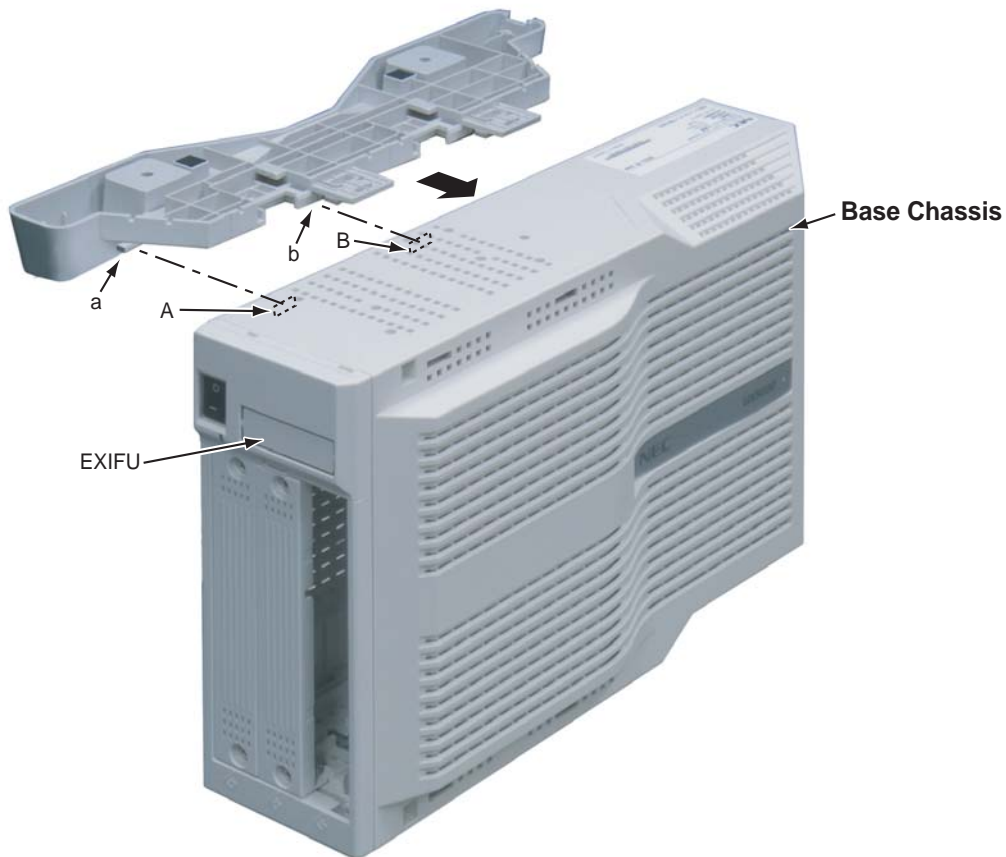

Figure 1-66: POSITION THE FIRST MOUNTING BRACKET
1.7.5 Bracket Installation for Desktop Position With Chassis-B (Figure 1-66 - Figure 1-69)